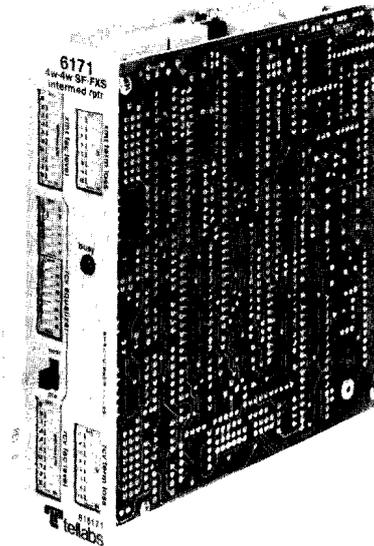

figure 1. 6171 4Wire-to-4Wire SF-to-FXS Intermediate Repeater module
1.01 The 6171 4Wire-to-4Wire SF-to-FXS Intermediate Repeater module (figure 1) provides both active transmission interface and bidirectional signaling conversion between a 4wire facility that uses 2600Hz single-frequency (SF) signaling and a 4wire metallic link (station loop or PBX trunk) that uses foreign-exchange station-end (FXS) loop signaling. This type of loop signaling is normally associated with the station end of both foreign-exchange (FX) and off-premises-station (OPS) circuits. The 6171 is designed in accordance with the specifications given in AT&T Technical Reference Pub 43001: Functional Criteria for Voice-Frequency Terminating Equipment/Metallic Facilities/Central Office.